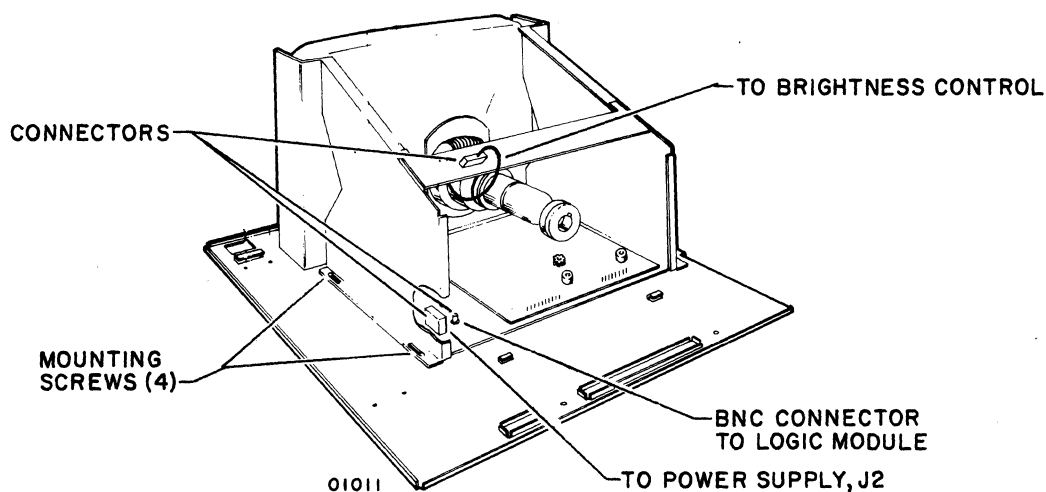

Figure 6-19. TV Module Mounting
- 4) Disconnect all cables from TV module (see figure 6-19).
- 5) Remove four mounting screws (see figure 6-19).